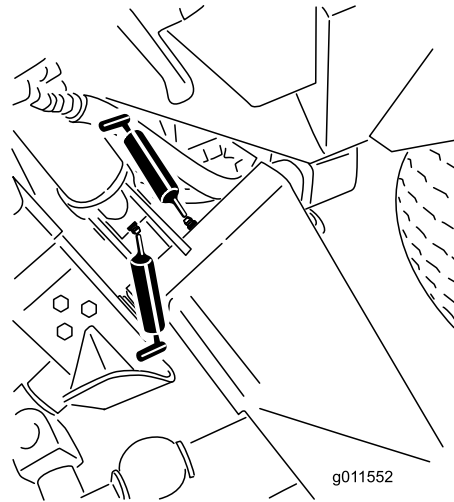
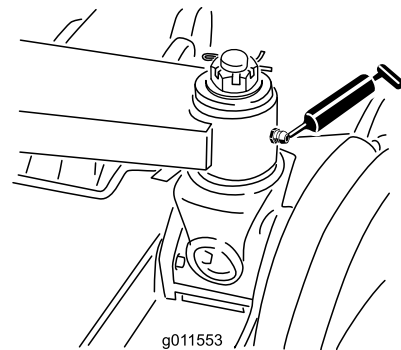

Figure 43
Figure 44
- Main lift arm bushings (6) (Figure 43 and Figure 44)